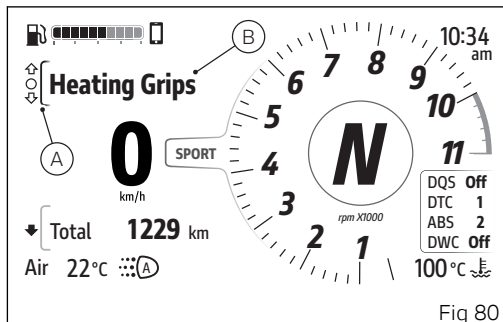

Fig 80
- Select the Interactive Menu (A, Fig 80) by pressing and holding button (1) pressed for a long time.
- Use buttons (1) and (2) to select item "Heated Grips" (B, Fig 80) and press the ENTER button (3).